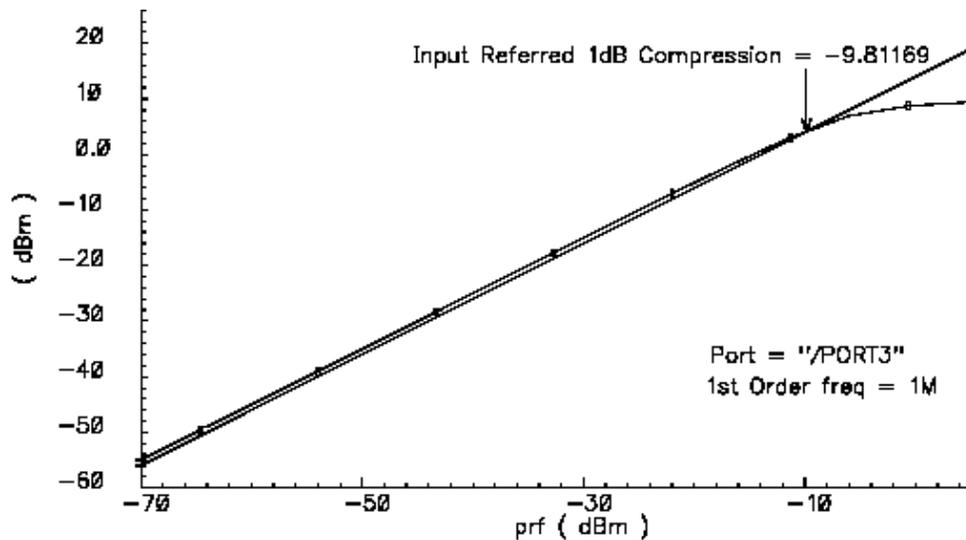

Fig 11: 1db Compression point and IIP3
- *The resulting plot is shown in Fig11*